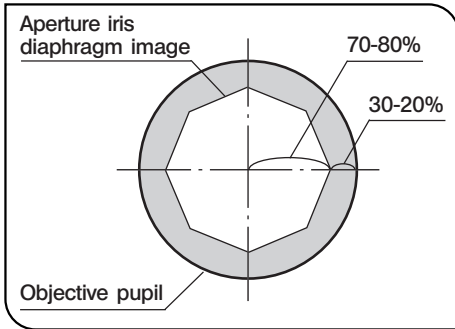
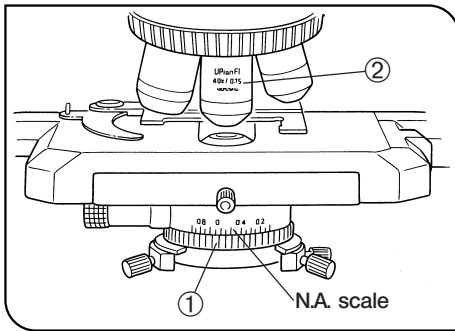

Fig. 31
Fig. 32
### Aperture Iris Diaphragm (Figs. 31 & 32)
- Since the contrast of microscope specimens is ordinarily low, setting the condenser aperture iris diaphragm to between 70 and 80% of the NA. ② of the objective in use is usually recommended. Adjust the ratio by removing the eyepiece and looking into the eyepiece sleeve while adjusting the aperture iris diaphragm ring ① until the image shown in Fig. 31 is seen.
③ Using the numerical aperture scale:
You can use the condenser numerical aperture scale by adjusting the aperture iris diaphragm ring ①. (Fig. 32)